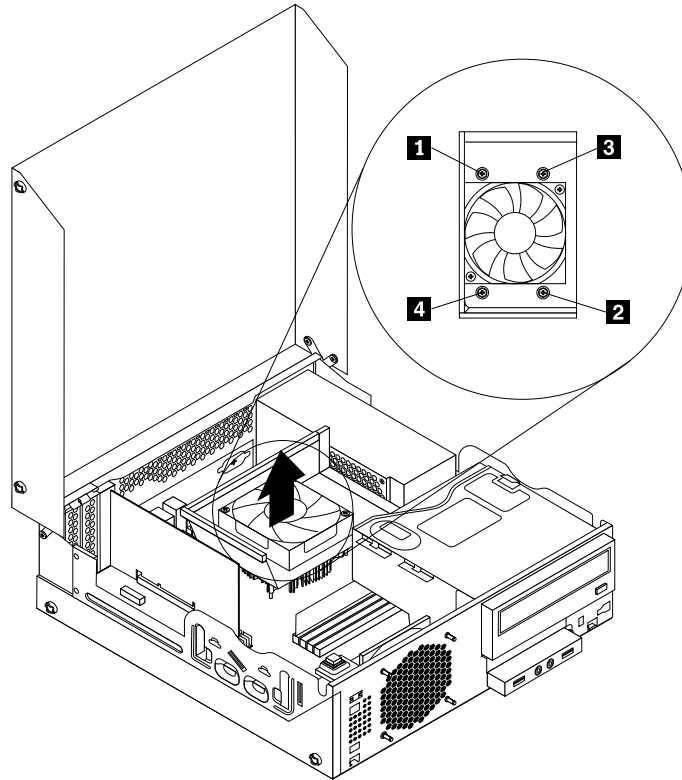

Figure 75. Screws that secure the heat sink and fan assembly
8. Follow this sequence to install the four screws to secure the new heat sink and fan assembly, as shown in Figure 75 “Screws that secure the heat sink and fan assembly” on page 141: